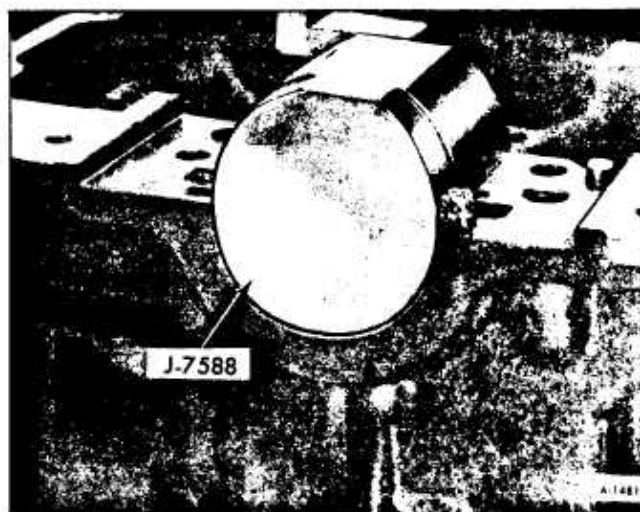

Figure 70-Installing Rear Main Seal-Upper Half
3. Install a new rear main bearing upper seal. Use tool J-7588 as shown in Figure 70.